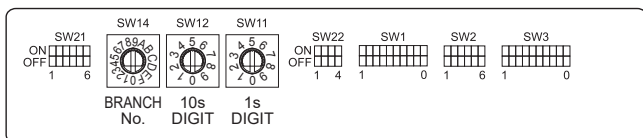

Fig. 6-4
6.5. Setting addresses (Fig. 6-4)
6.6. Switch setting for different ceiling heights (Fig. 6-4)
6.7. Sensing room temperature with the built-in sensor in a remote controller (Fig. 6-4)